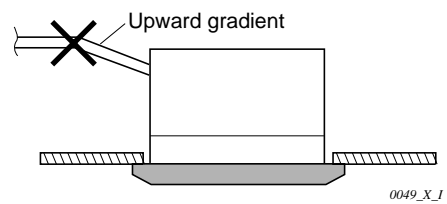

Fig. 3-30
- Do not install the pipe with an upward gradient from the connection port. This will cause the drain water to flow backward and leak when the unit is not operating. (Fig. 3-30)